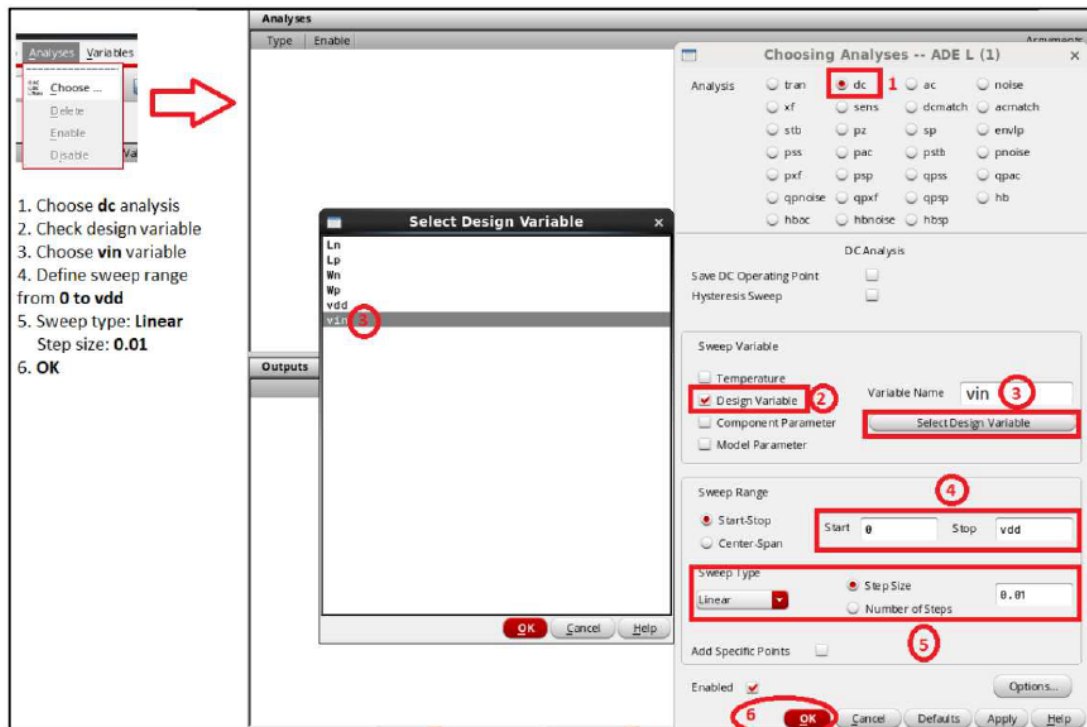

Figure 3. Setup the analysis method
- At tab **Analyses** → Choose the type of the analysis (dc, ac, tran, noise, stb, pss ...) as **Figure 3**. In this experiment, we use **DC analysis** to find the trip-point of INV from in-out characteristic curve.